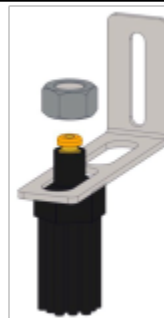

Figure 3
10. (nuts should only be finger tight at this point as minor adjustment may be necessary). See figure 3